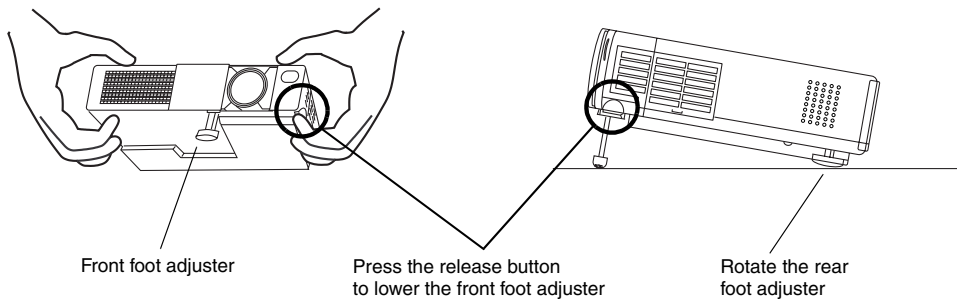

Figure 5: Angle Adjustment
Screen Size (inches)	Distance to Screen (inches) (shown as 'a' in Figure 5, above)
Adjust the projector angle using the foot adjusters shown in Figure 5 below. See also Keystone under "Input Menu" on page 11.
- 1 Press the release button to lower the front foot, then tilt the projector up as shown in Figure 5 below.